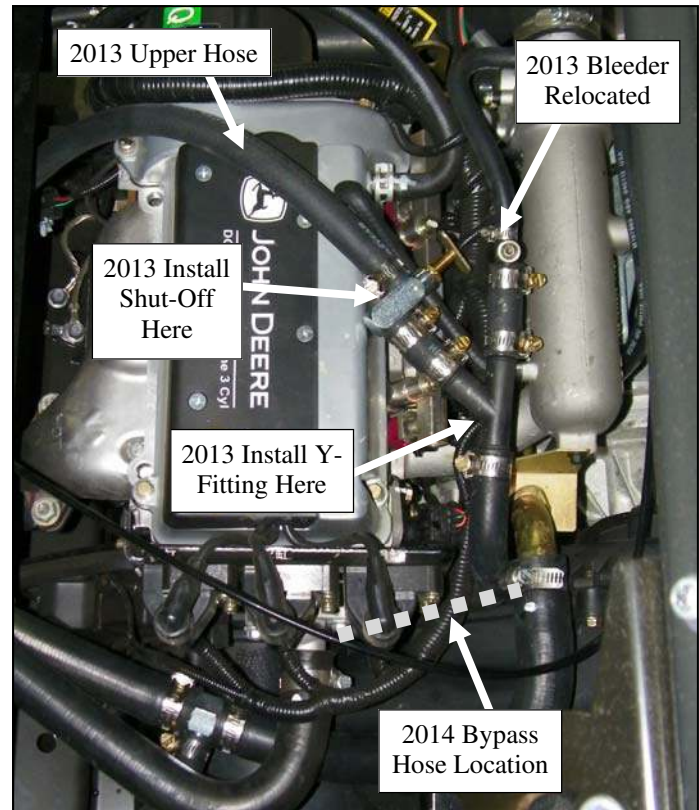

FIGURE 5.23 (2013 engine shown)
5.23 (GAS ENGINE (2013 and earlier) ONLY) Remove the bleeder fitting from the larger diameter hose and insert the open end of the y-fitting from step 5.22 into its place. Rotate the y-fitting to appear as in Figure 5.23 and tighten hose clamp.
5.27 (GAS ENGINE (2014 - PRESENT) ONLY) Remove the short bypass hose that connects the water pump to the solid radiator return line. See Figure 5.23 for the approximate bypass hose location.